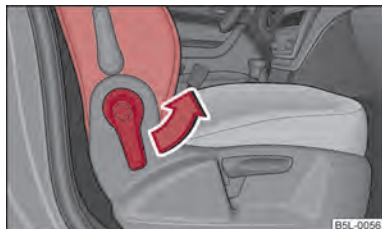

Fig. 43 Folding seat backrest of the front passenger seat
- Pull the lever in the direction of arrow ⇒ fig. 43 and fold the seat backrest forward until the lock is heard to engage.